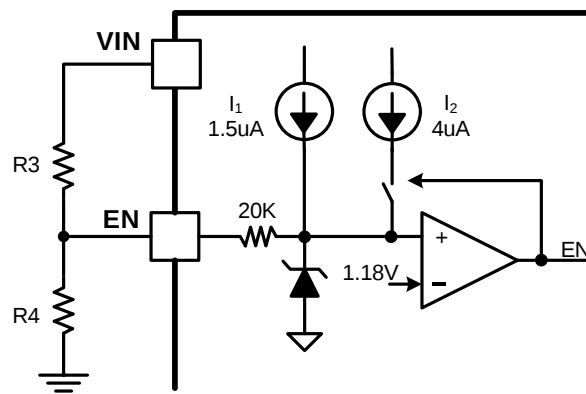

Figure 8: EN pin configuration for VIN UVLO voltage
An internal 1.5uA pull up current source connected from internal LDO power rail to EN pin guarantees that floating EN pin automatically enables the device. For the application requiring higher VIN UVLO voltage than the default setup, there is a 4uA hysteresis pull up current source on EN pin which configures the VIN UVLO voltage with an off-chip resistor divider R3 and R4, shown in Figure 8. The resistor divider R3 and R4 are calculated by equation (1) and (2).